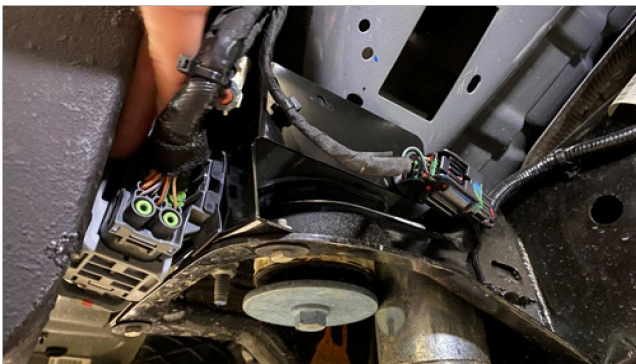

Figure 6
C. Reposition and secure the factory wire harness connectors onto the AEV brackets (fig. 6).